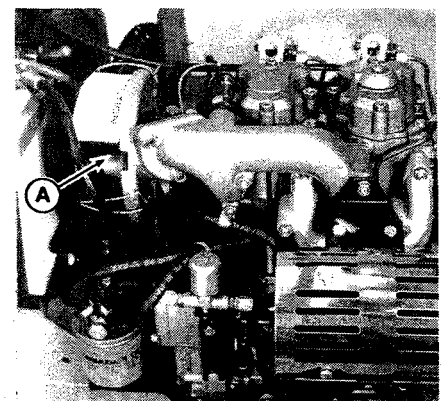
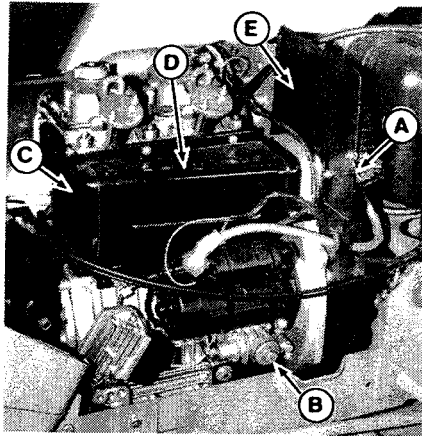

Figure 16. Air Cleaner.
Figure 17.
1. Remove cover (A, figure 16) by removing three clips. Disconnect hose from wire holder (A, figure 17).
5. Connect hose to wire holder (figure 17).
3. At 300 hour intervals, clean the oil filter. Remove cover (B, figure 17). Grasp tab to pull out filter.
1. To remove front cover (C, figure 17) remove two screws at top and one at bottom.
2. To remove side cover (D) remove three screws at top and one at bottom.